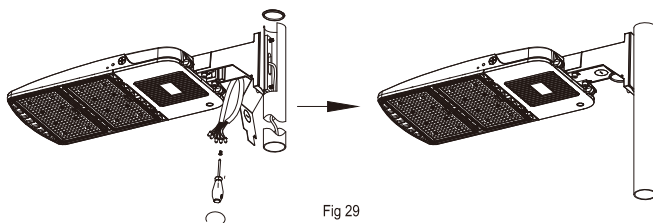

Fig 29
Step 6 . Close the cover plate on the lamp and tighten the cover plate screw with screws to cover the top cover of the lamp post, as shown in Fig. 29